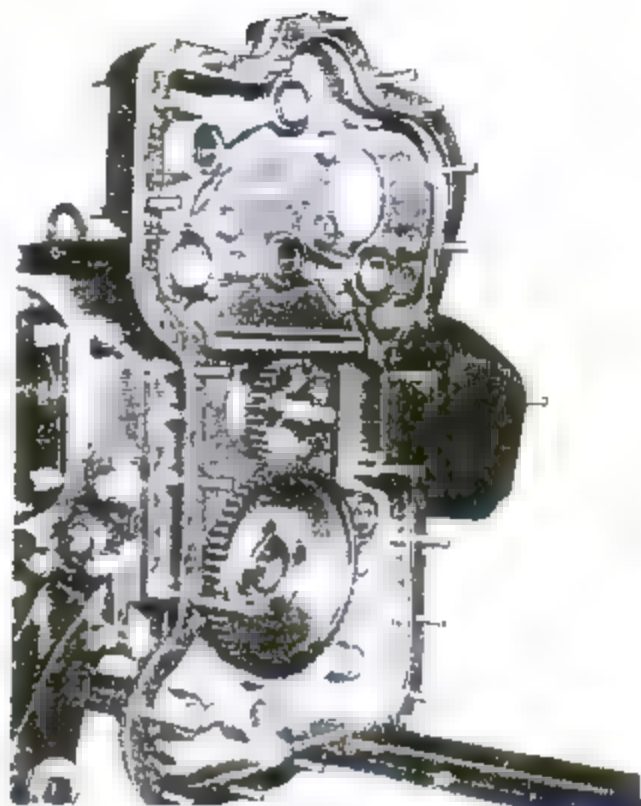

Figure 7-9. Accessory Case Front Half and Timing Gears Installed
d. Insert the long end of the upper hydraulic pump drive plug (1, figure 7-9) (or the splined shaft end of a drive gear, if required) into its bushing in the case front half. Push the plug or gear shaft carefully through the oil seal lip, and make sure that the lip is not pushed ahead of the shaft.
e. Insert the long end of the propeller governor drive oil plug (2) (or splined shaft end of the drive gear, if required) into its bushing in the accessory case rear half.
f. Insert the longer shaft end (with internal square) of the upper tachometer drive gear (3) into its rear bushing. Lift the case casting to see that the oil seal lip is not reversed as the shaft is pushed through.